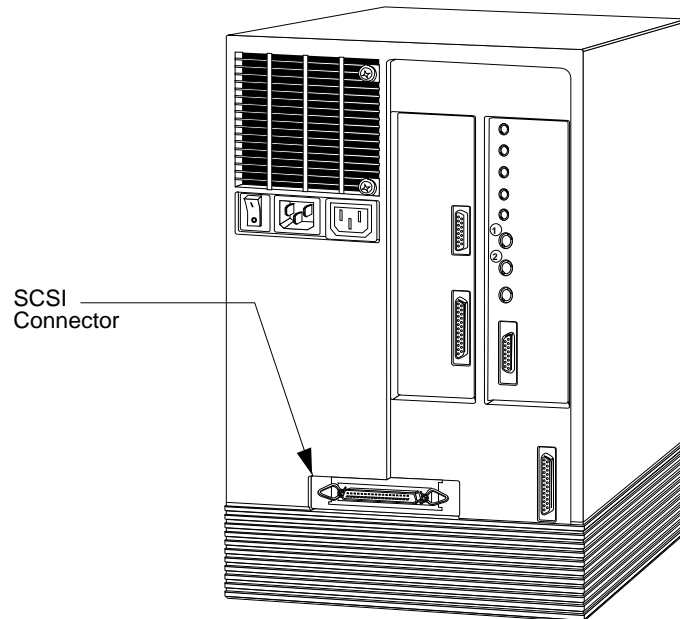

Figure 4-8 SCSI Connector on the Back of the Indigo Chassis
2. Locate the SCSI connector on the back of the Indigo chassis, as shown in Figure 4-8.
- If you are attaching the device to the workstation, remove the terminator from the SCSI connector on the Indigo chassis by squeezing the clips on both sides of the terminator and pulling it off, as shown in Figure 4-8.
Attach the flat, smaller end of the cable to the SCSI connector on the workstation, as shown in Figure 4-8.